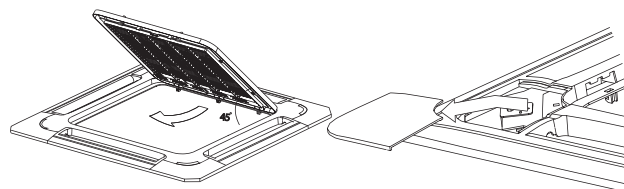

Fig.5-10
- Draw the grill up to an angle of about 45°, and remove it. (Refer to fig.5-10)